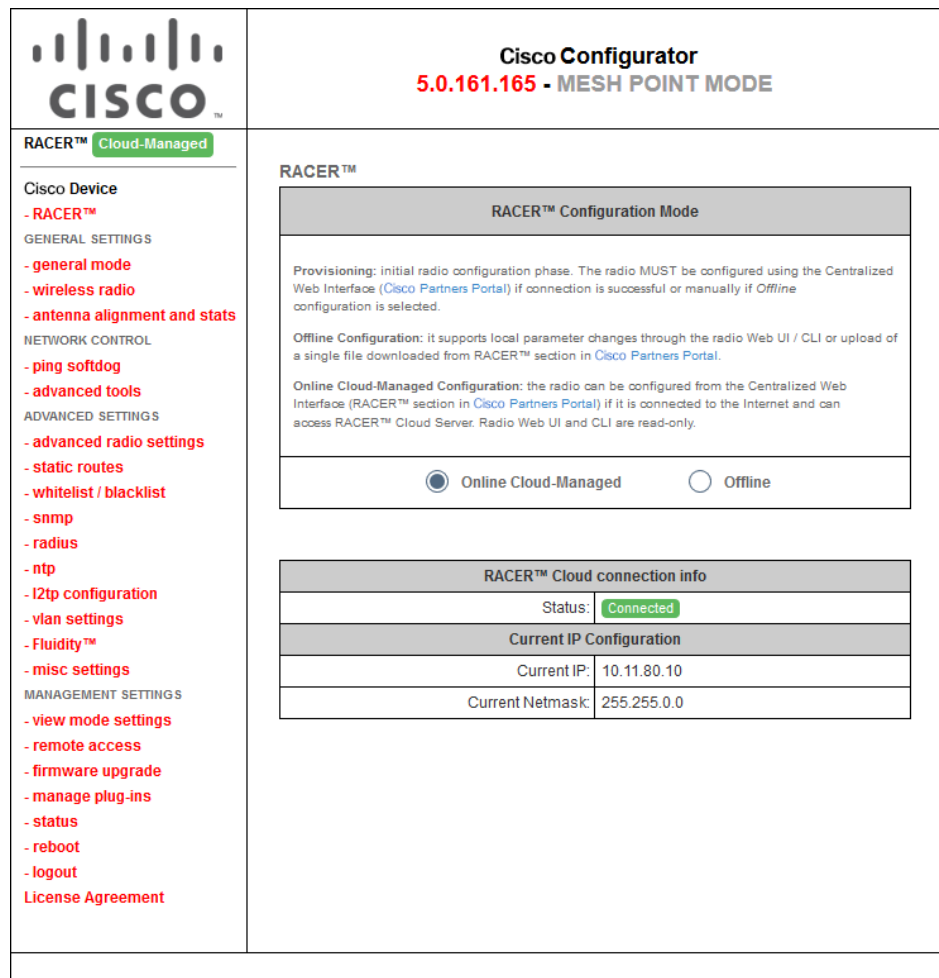

Figure 26. Cisco Configurator (landing page)
- The Configurator landing page will be shown (Figure 26 (page 48)).